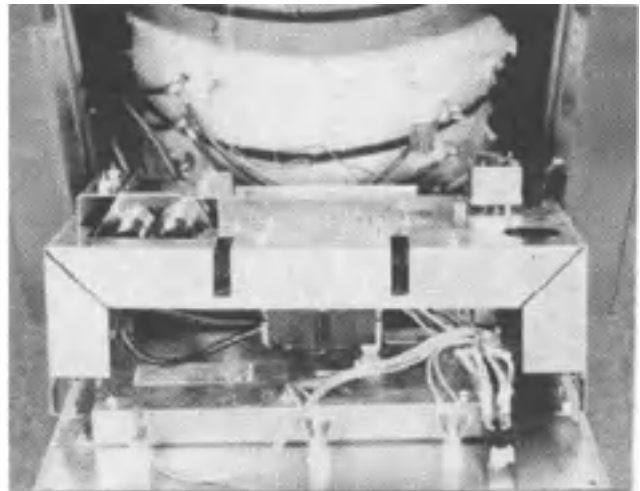

FIG. 36
3. Remove the two (2) screws securing eyebrow to relay panel and save for reuse.
4. Remove the four (4) screws securing escutcheon to relay panel and save for reuse. **CAUTION:** Utilize care in preventing escutcheon from falling forward when removing these screws. Lower escutcheon slowly until secure in open position.
5. Remove the four (4) screws securing relay panel to side panels and save for reuse. **CAUTION:** Utilize care in preventing relay panel from falling forward when removing these screws. Lower panel slowly until secure (See Figure 36).